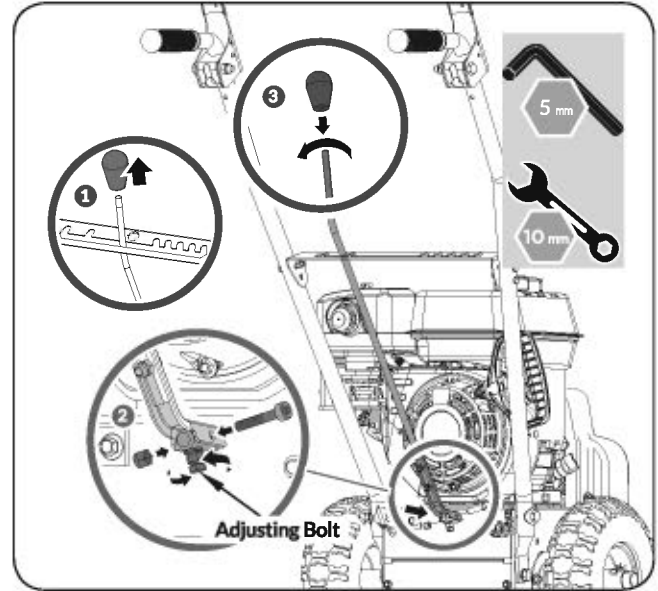

Figure 5a
2. The adjusting bolt will need to be loosen to install shift arm (See **Figure 5a #2**). Secure shift lever to the shift arm with screw and nut.